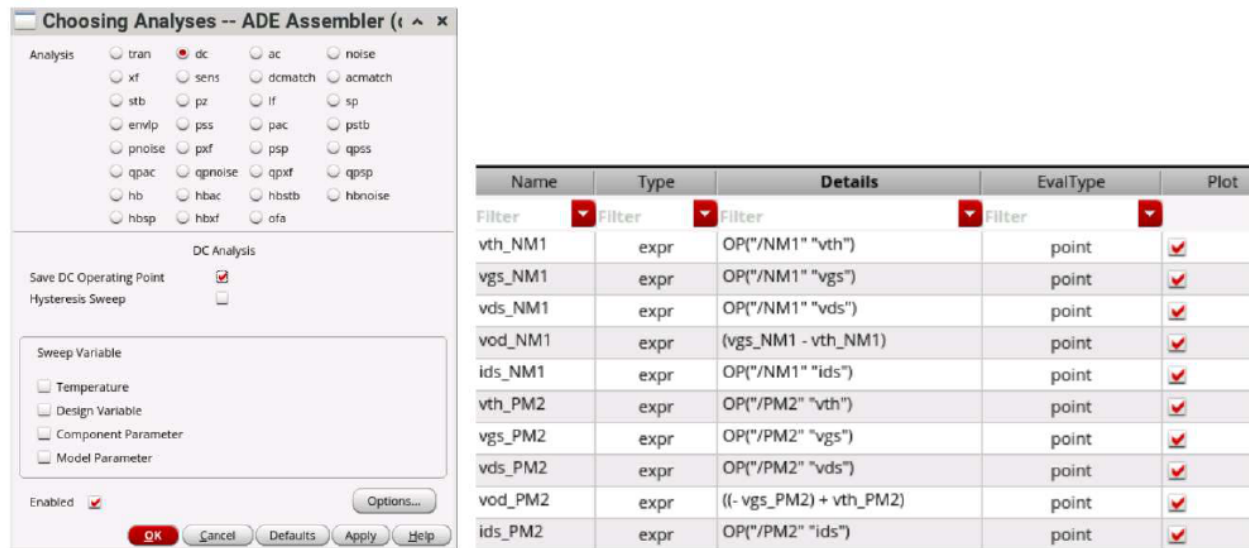

Figure 7. Setup for 2.4.2 section
- Students use the Calculator tool to perform measurements as shown in **Figure 7**.